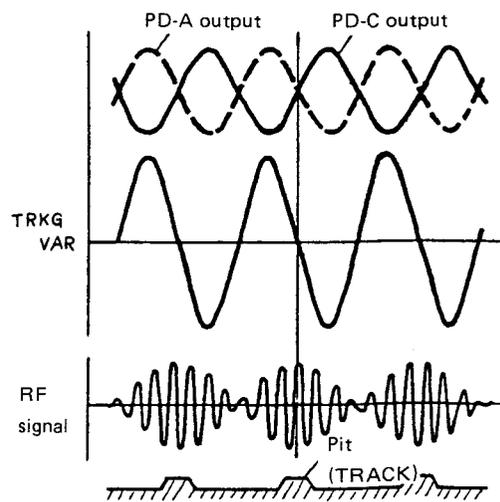
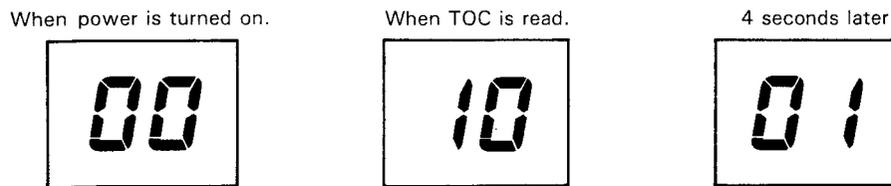
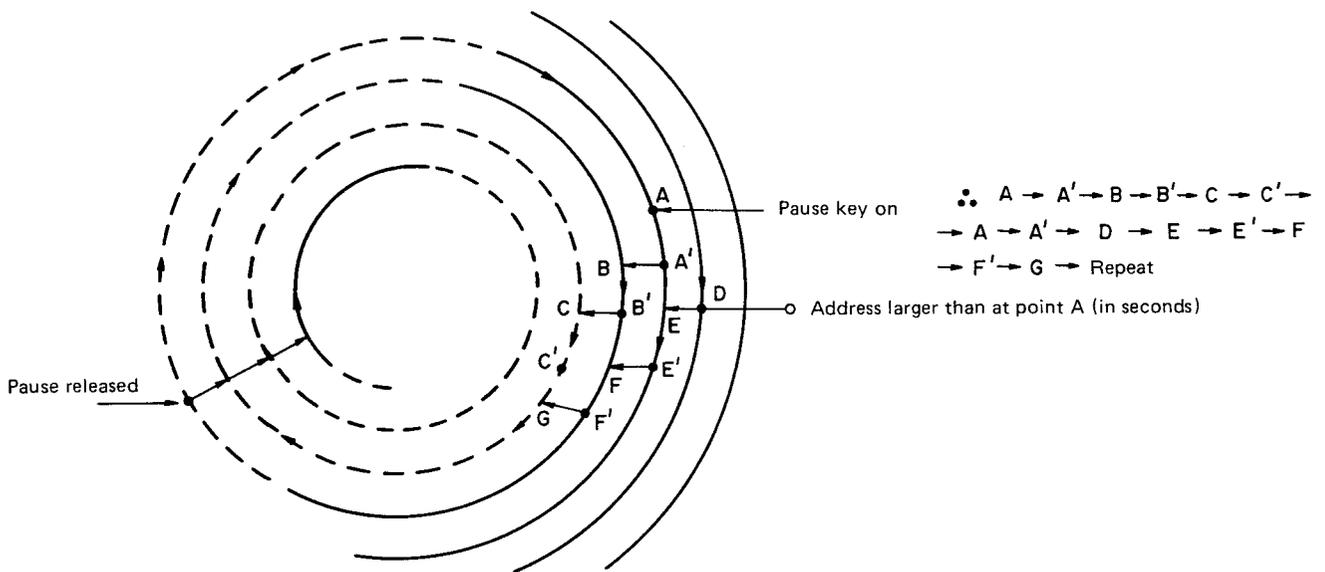

Fig.3-36 Tracking error and the RF signal
Fig. 3-37
Fig. 3-38
Fig. 3-36 shows how the focus signal is detected. (1) is when the beam from the laser diode is accurately focused on the disc by the objective lens. (2) shows what happens when the disc comes closer to the pickup and (3) shows what happens when the disc moves farther away. The grating and concave lens, which have no direct effect on the focusing are not shown in the diagram.
In case (1), the beam emanating from point 01 is reflected and diffracted on the disc surface to produce the condensed beam (02). In case (2), the beam is directed at a point farther than that of beam 02. Fig. 3-37 shows the properties of the cylindrical lens. Since the cylindrical lens is shaped as shown in the diagram, the lens is operated in the vertical direction of the diagram, not the horizontal direction. 1 through 7 shows the shape of the beam at each point. between points 2 and 6, which are in a straight line, the beam is circular at point 4. Point 6 corresponds to beam 02 of fig. 3-36. If we assume that fig. 3-37 shows mode (1) of fig. 3-36, that means the beam is circular because the photo diode is located at point 4. In mode (2) of fig. 3-36, the location of the photo diode is closer to the cylindrical lens than it was in fig. 3-37. That means the shape of the beam is the same as that of point 3 (an ellipse that has a longer width than height). In mode (3) of fig. 3-36, the shape of the beam is that of point 5, an ellipse that has a longer height than width.
These beam shapes are shown in fig. 3-36. By performing a  $(B1 + B3) - (B2 + B4)$  computation using the B1-B4 photo diode quartering elements, the focus signal is produced.
If the objective lens is moved closer to the disc until point 7 of fig. 3-37 is reached, the shape of the beam at the photo diode becomes an ellipse that is higher than it is wide. The focus signal would then be positive because  $(B1 + B3)$  is greater than  $(B2 + B4)$ . However, after the peak (vertical line) is reached at point 6, it begins to return to zero. If it becomes zero at point 4, the beam becomes an ellipse that is wider than it is high because  $(B1 + B3)$  is less than  $(B2 + B4)$  and the focus signal becomes negative. After peaking at point 2, the focus signal returns to zero just as when the objective lens is too far from the disc. Focusing signals produced in the above manner are shown in fig. 3-38. Due to its shape, this is called an S-curve, an important graph that expresses the properties of the focus signal.